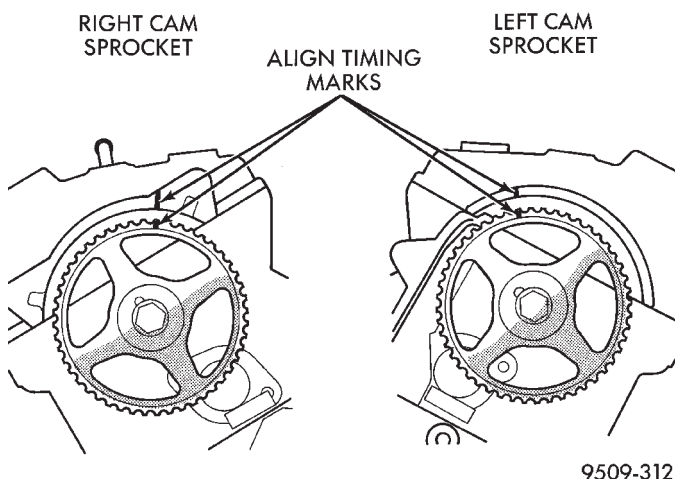

Fig. 56 Camshaft Sprocket Timing
- (2) Set camshaft sprockets to the aligning marks on the sprockets with the marks on the rear timing belt cover (Fig. 56).